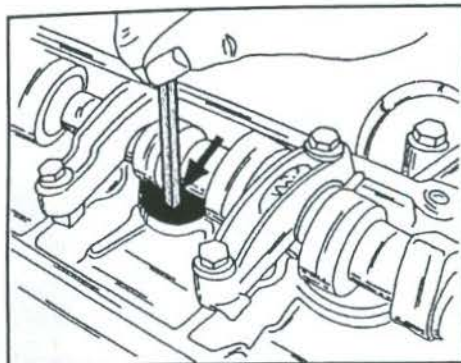

Fig. 1.27 – Checking of a hy-draulic compensating element.
- Use a drift, as shown in Fig. 1.27 and push the tappet towards the inside, or try to move the tappet with the fingers.